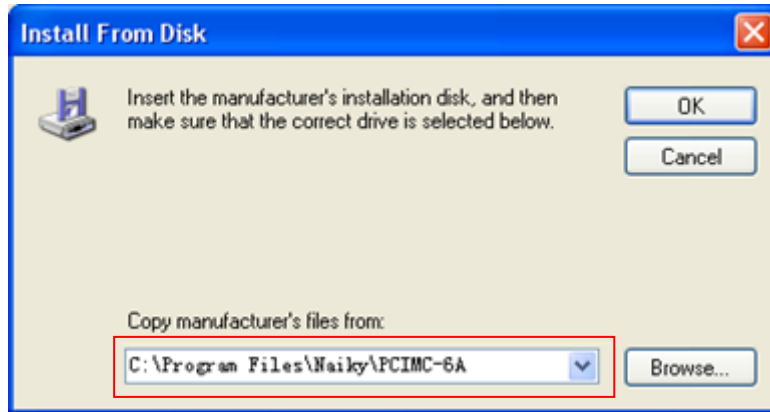

Fig. 2-10 Select the target file of driver
- Select “Browse” in the pop-up dialog “Install From Disk”, and then select the target file “NcadptPci(PCIMC-6A).inf” under “C:\Program Files\Naiky\PCIMC-6A”. See Fig. 2-10.